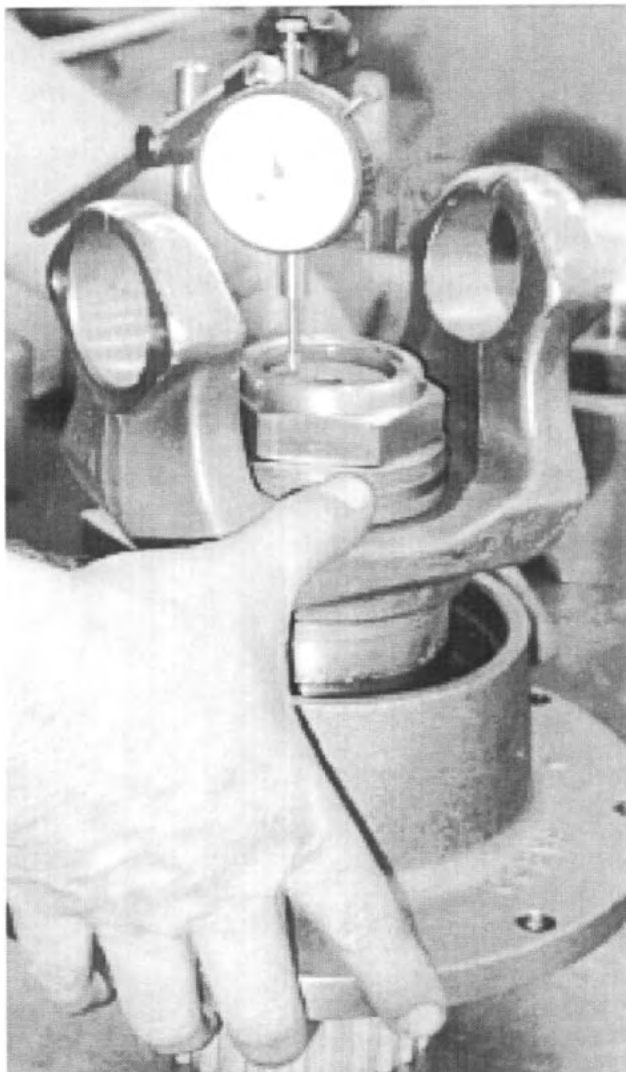

Fig. 39
1. To aid in proper reassembly, note the amount of end float of the front output shaft and carrier assembly before disassembly. *See Fig. 39.*